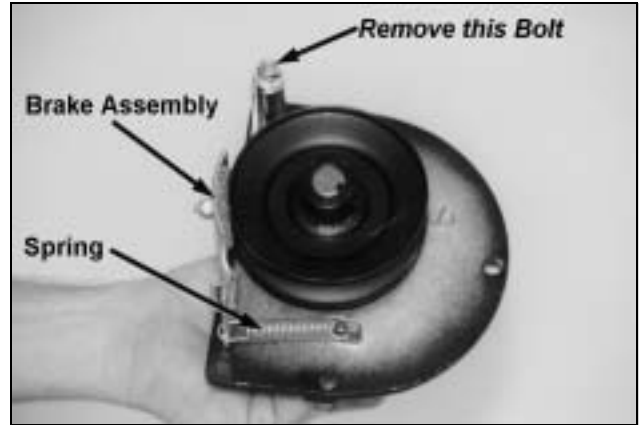

Figure 41
4. Remove the spring or release the break from the bearing housing (Figure 41).
6. Remove the brake assembly and spring from the bearing housing (*Figure 41*).
2. Mount the brake assembly and spring (*Figure 41*).